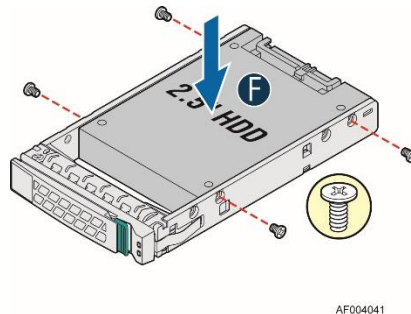

Figure 42. Installing a 2.5" HDD or SSD – inserting the 2.5" HDD or SSD
3. Insert the storage device into the carrier (F). Verify the connector end of the storage device is located towards the back of the carrier and secure the storage device to the carrier using the four screws as pictured in Figure 42.